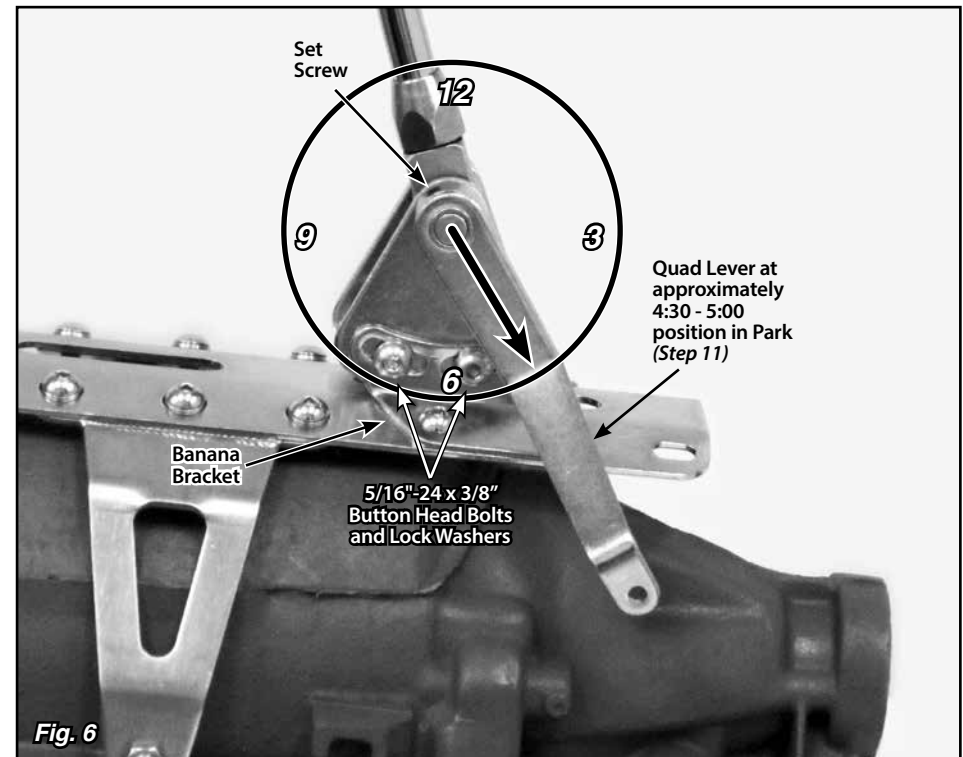

Fig. 6
Step 10: Make sure the two 5/16"-24 x 3/8" button head bolts and lock washers that attach the driver side banana bracket to the shifter assembly (in the curved, slotted holes) are tight. Before tightening the shifter assembly down to the main plate, move the shifter lever through all the gear positions. Make sure that the shifter lever and knob do not come in contact with the dash or the seat. The shifter assembly can be tilted forward or backward if needed by loosening the 5/16"-24 x 3/8" button head bolts and lock washers in the curved, slotted holes in the driver side banana bracket. **Fig. 6**
Step 11: Put the shifter lever into the Park position and check the position of the quad lever. It will need to be pointing to about the 4:30 - 5:00 position. If it is not, loosen the set screw in the top of the quad lever with a 1/8" Allen wrench and slide the quad lever off of the shaft. Reposition it on the shaft at approximately the 4:30 - 5:00 position, and retighten the set screw. **Fig. 6**
Double check to make sure that the bolts connecting the **driver** side banana bracket to the shifter assembly are tight. **Fig. 6**